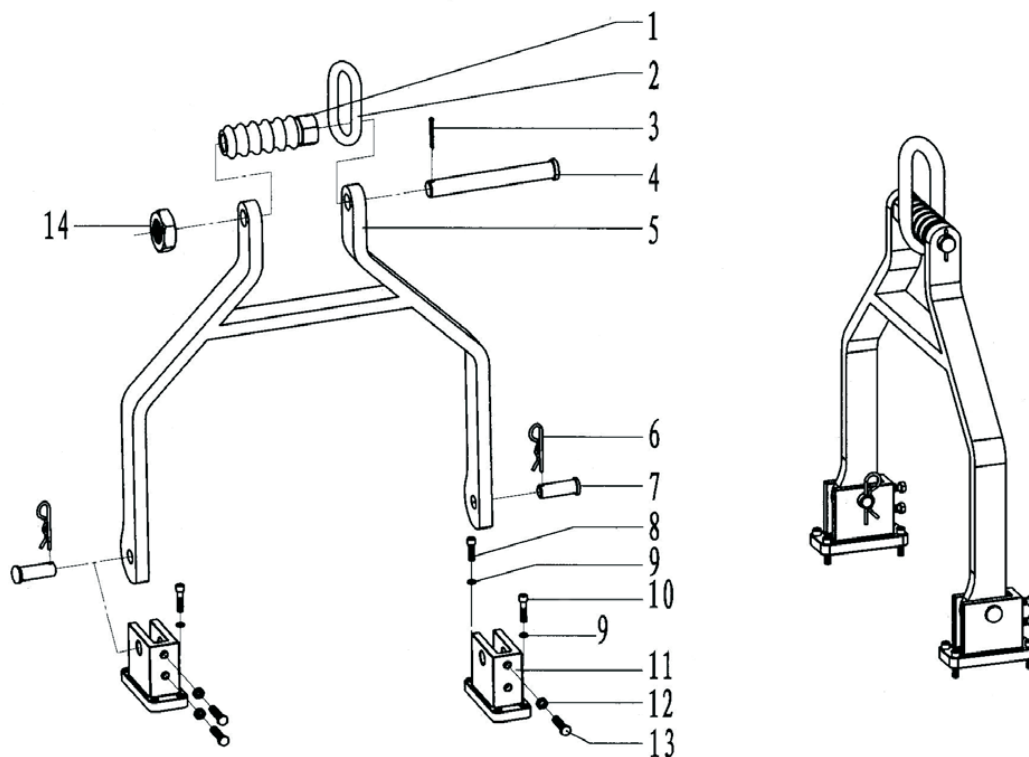

Fig.17
7.15 Assembly of suspension rod (Fig 17, Table 17)